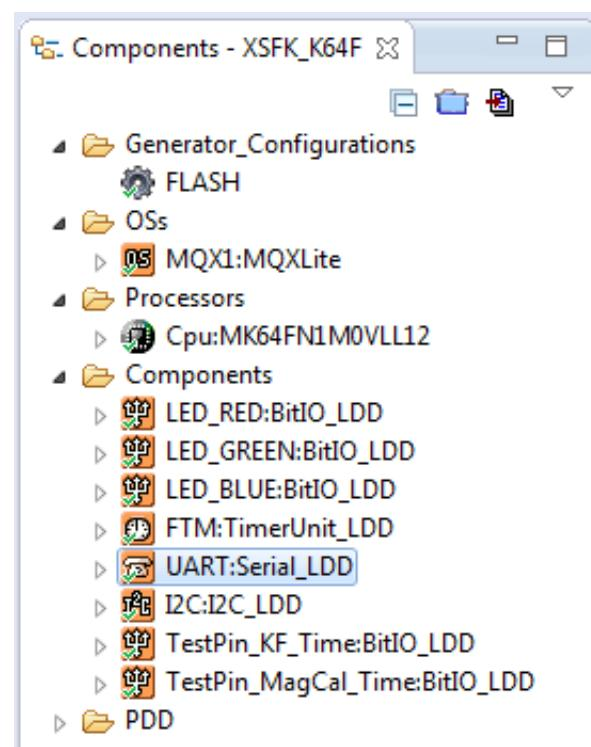

Figure 13. Processor Expert Components for XSFLK_64F panel
b. With the project selected, in the **Processor Expert Components** panel, select **UART:Serial_LDD** entry as shown in Figure 13 :